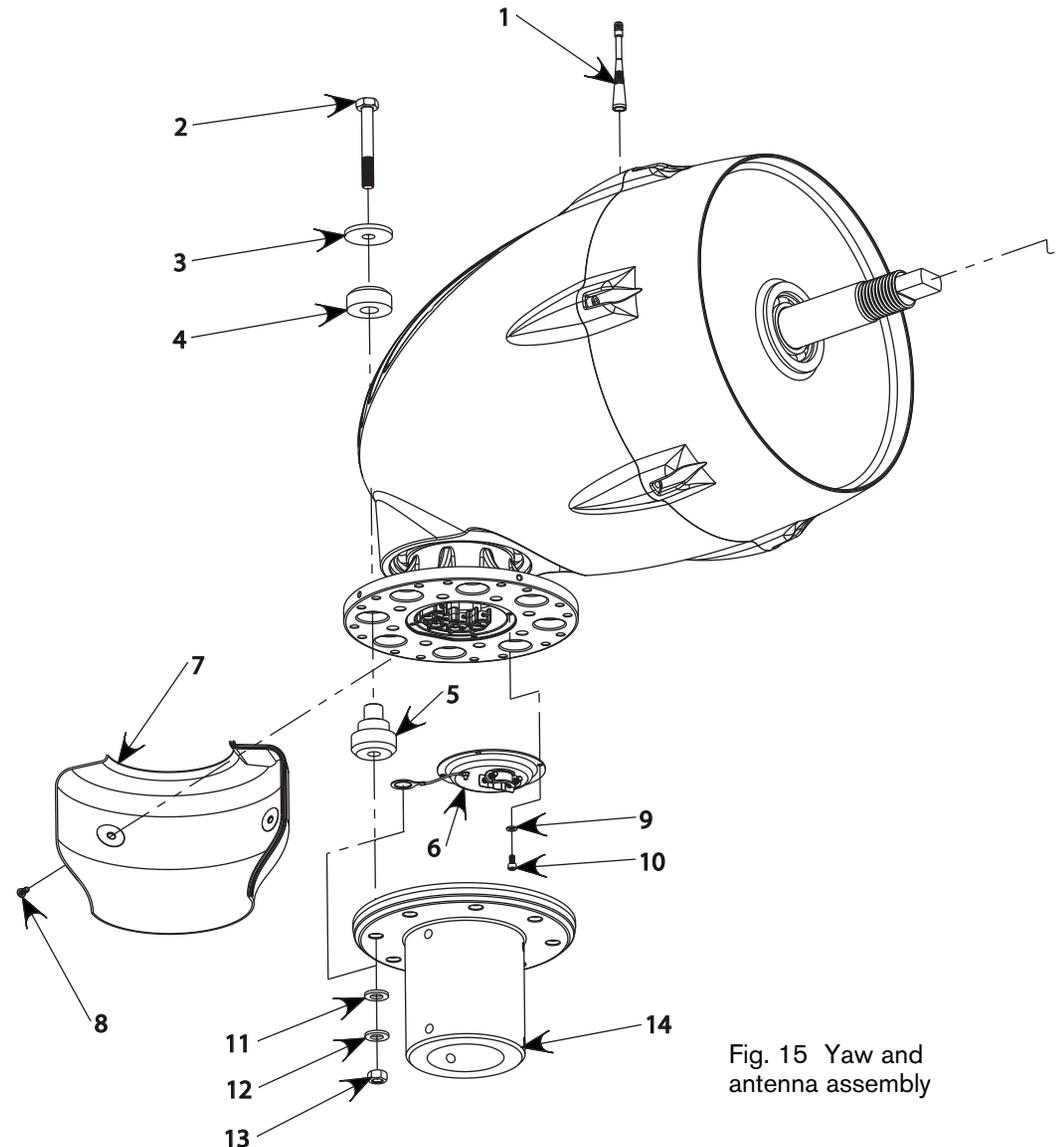

Fig. 15 Yaw and antenna assembly
- Install the vibration isolators on yaw flange as shown in **Fig. 11** (also see **Fig. 15**, page 26). Install snubbing washers and bolts in vibration isolators.
Note: The orientation of the vibration isolators is very important. Refer to **Fig. 15** (page 26).
- Mount yaw shield halves using four M5 button head screws. See **Fig. 15** (page 26). Use Loctite® 242 supplied with Skystream.